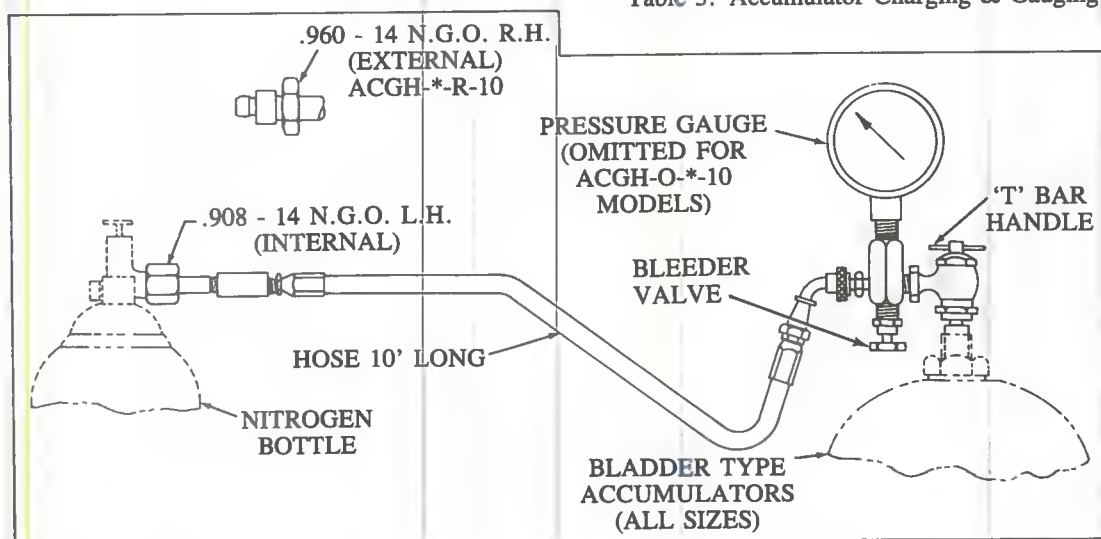

Figure 2. Accumulator Charging & Gauging Device.
2. Attach a charging hose assembly directly from the nitrogen bottle to the accumulator. Turn the 'T' bar handle inward to depress the valve core of the bladder. The bleeder valve below the pressure gauge **MUST BE CLOSED**. See Figure 2 for charging hose connections. Refer to Table 3 for the appropriate accumulator charging and gauge assemblies.
16. Accumulator charging devise (see Figure 2 and Table 3)